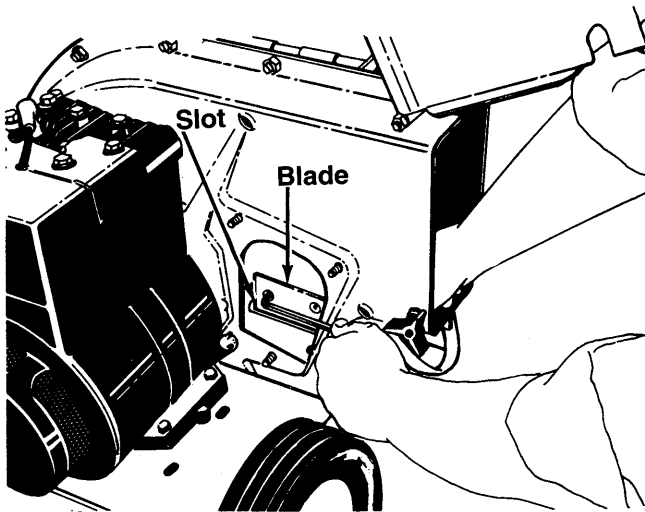

FIGURE 10.
4. Rotate the impeller assembly by hand until you locate one of the chipper blades in the chipper chute opening. Remove the blade, using a 3/16" allen wrench on the outside of the blade and 1/2" wrench on the impeller assembly (inside the housing). See figure 10.
Make certain blades are reassembled with the sharp edge facing the direction shown in figure 10 (sharp edge is assembled toward the slotted opening in the impeller assembly).